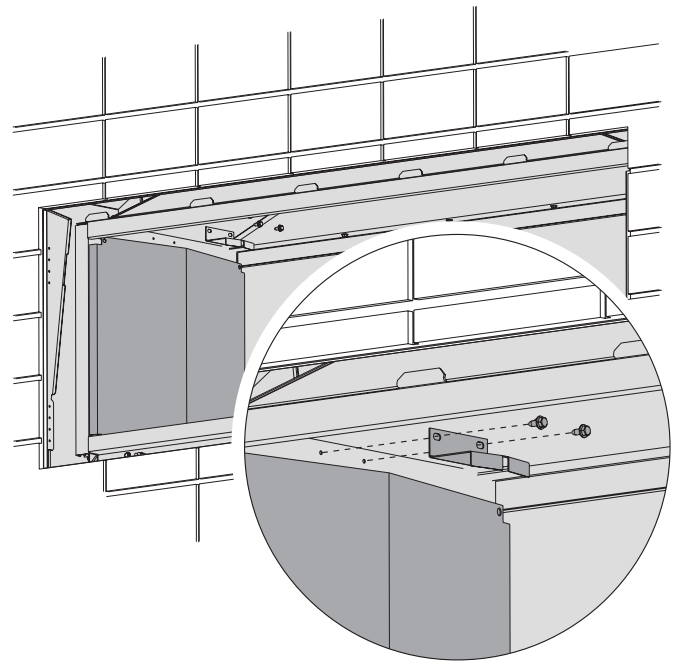

Figure 3
2. Tilt the panel against the firebox wall and secure with a liner bracket as shown in **Figure 3**. An electric screw gun must be used for this step. Use the pilot holes shown in **Figure 3** to properly locate the liner bracket.